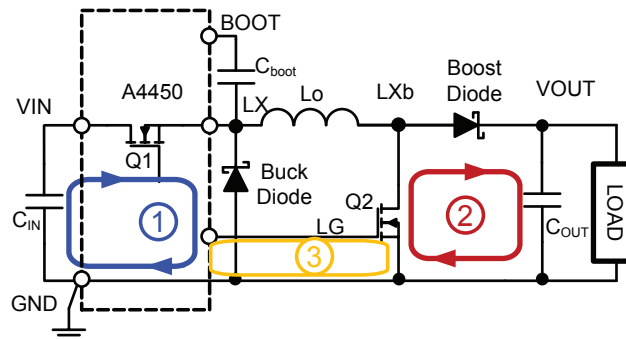

Figure 20: Typical Buck-Boost Regulator
A good PCB layout is critical for the A4450 to provide clean, stable output voltages. Follow these guidelines to ensure a good PCB layout. Figure 20 shows a typical buck-boost converter schematic with the critical power paths/loops.
1. Place the ceramic input capacitors  $C_{IN}$  as close as possible to the VIN pin and GND pins to minimize the area of the critical Loop 1 (shown in Figure 20); and the traces of the input capacitors to VIN pin should be short and wide to minimize the inductance. The larger input capacitor can be located further away from VIN pin. The input capacitors and A4450 IC should be on the same side of the board with traces on the same layer.